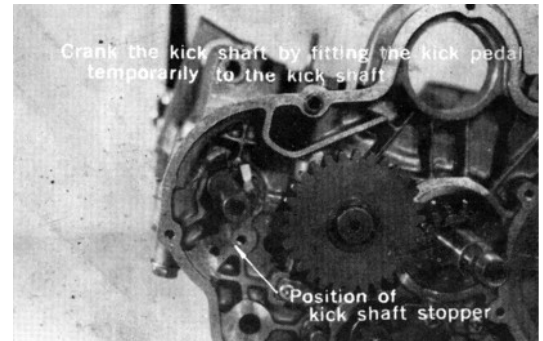

Fig. 36-1 Fitting kick shaft stopper (1)
7. To fit kick shaft stopper, assemble upper and lower crank case covers first and fit kick pedal temporarily to the kick shaft by cranking the engine. (Fig. 36-1, 2, 3)